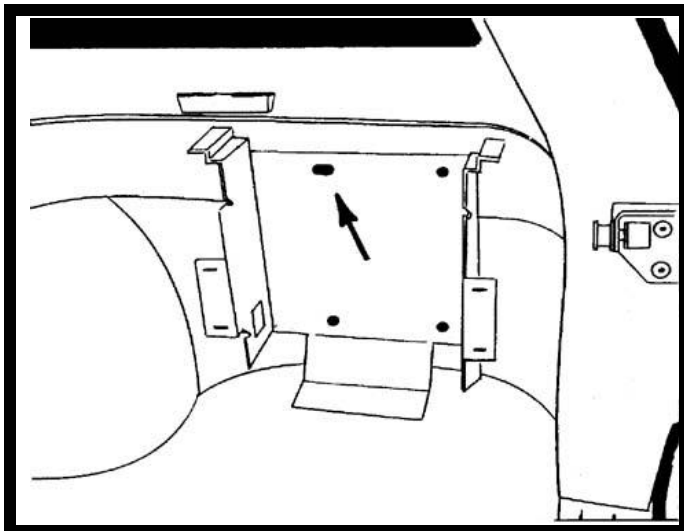

FIGURE 3
3. Align slot in VCP mounting bracket with hole previously drilled. Loosely install (1) one #8 x 1 1/2" screw (item 1 pg 2) in dimple in metal brace behind plastic panel. See Figure 3.